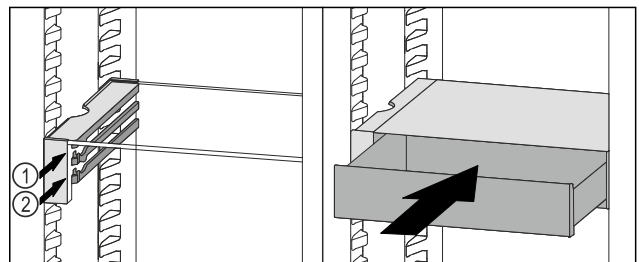

Fig. 97
- Place the VarioSafe drawer behind the stoppers on desired rib *Fig. 97 (1)* or *Fig. 97 (2)*.